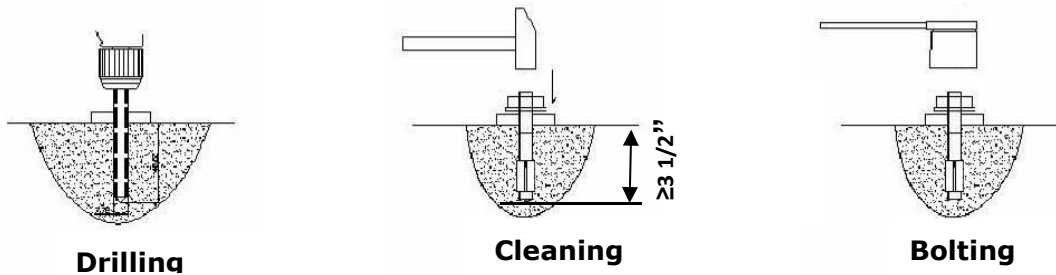

Fig.17
2. Use the prescribed rotary hammer drill, and drill all the anchor holes and install the anchor bolts. Then tighten the anchor bolts (See Fig. 17).